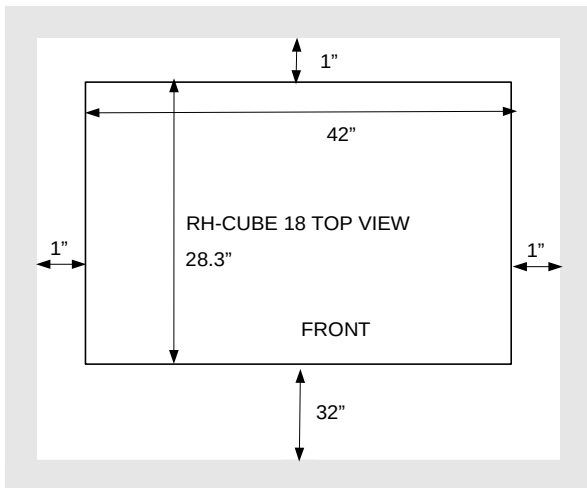

Figure 1 - Minimum clearances
- Allow sufficient clearance to handle the unit's overall dimensions, with enough space to access all sides for maintenance and service, as well as the necessary return and supply ductwork to the unit. See Figure 1.